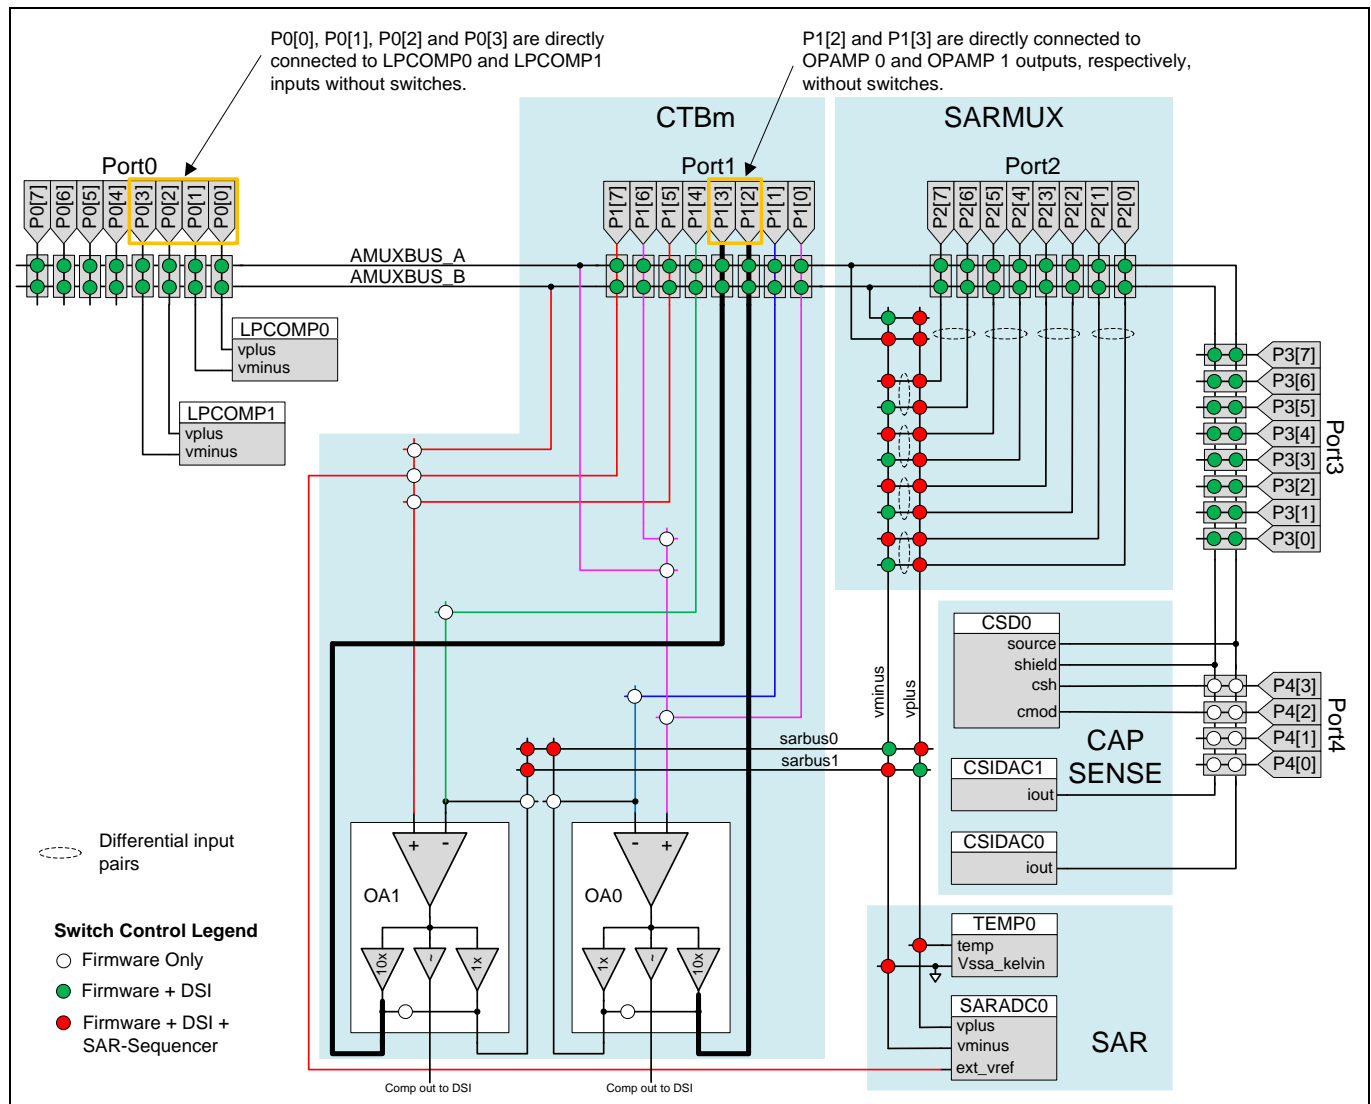
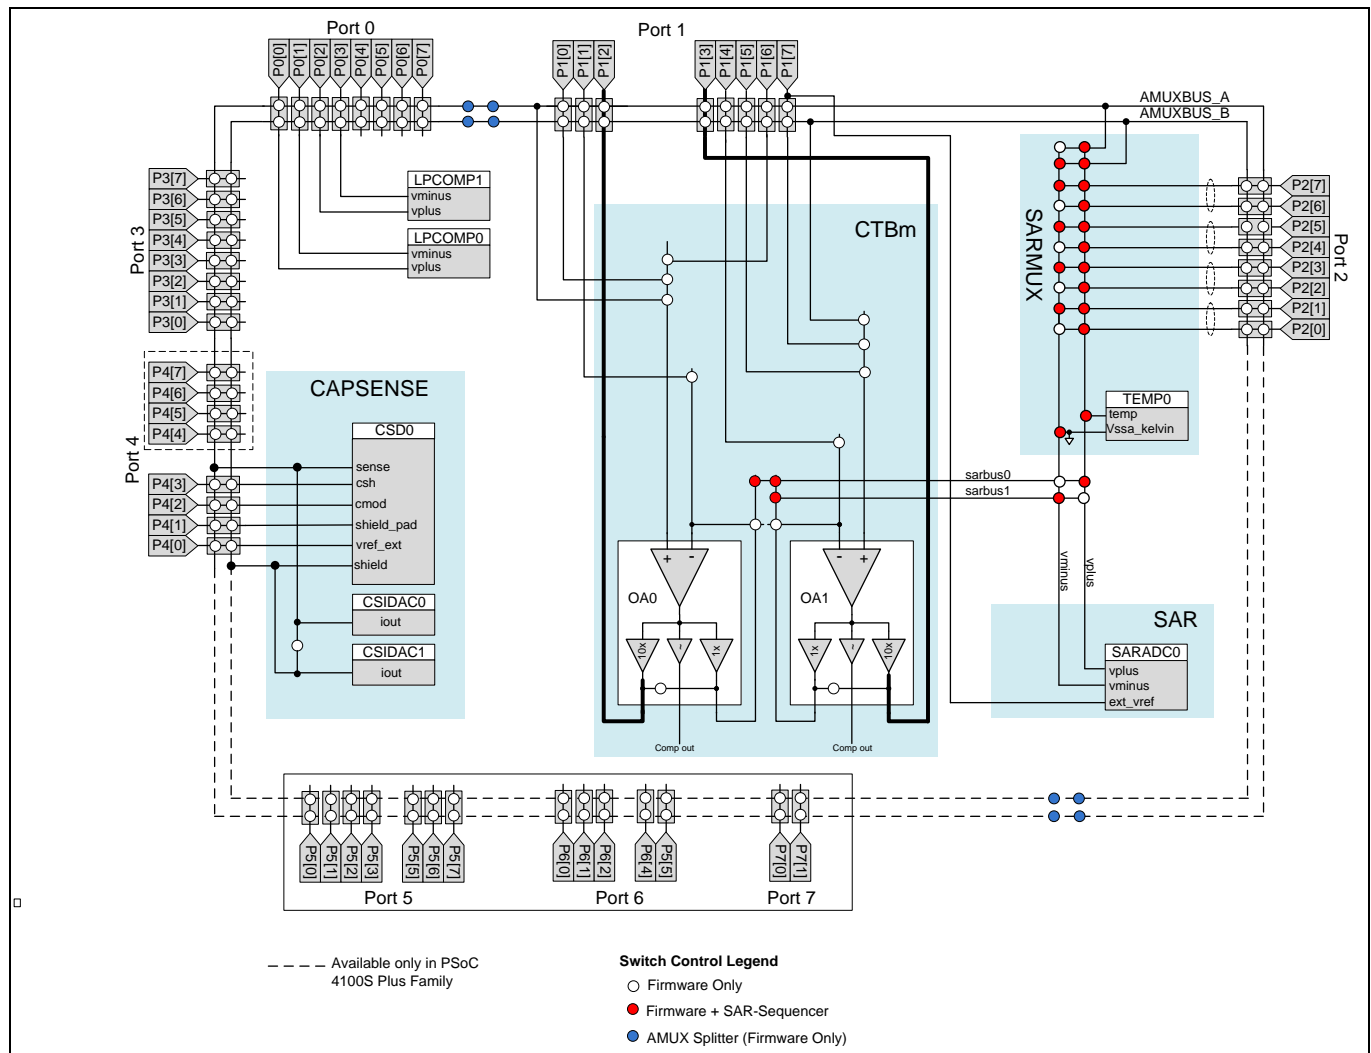
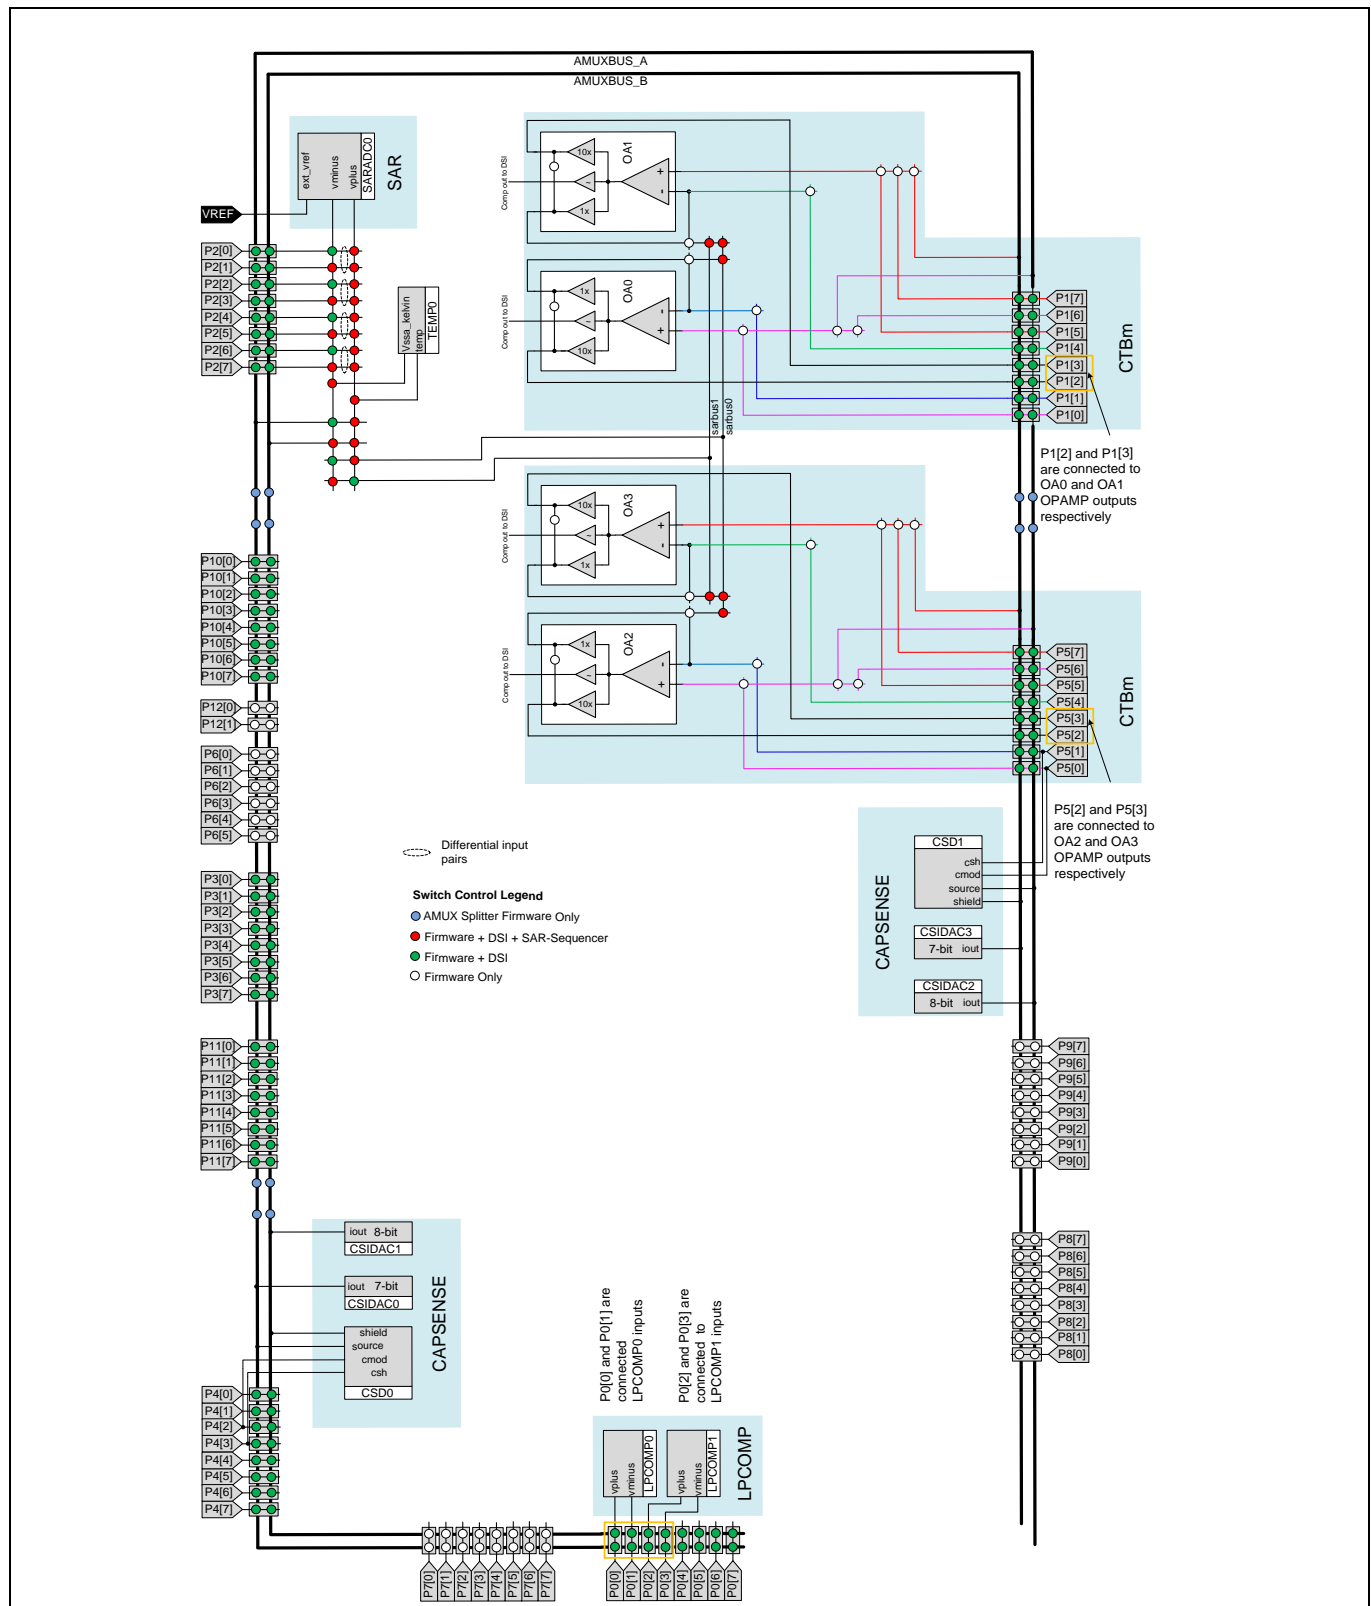

Figure 13 PSoC 4200/PSoC 4100 Analog Routing Diagram
Figure 14 PSoC 4100S/4100S Plus Analog Routing Diagram
Figure 17 PSoC 4200L Analog Routing Diagram
The following are the key highlights of analog routing in other PSoC 4 parts — see Figure 13 to Figure 17.
- There are dedicated pins for CapSense CMOD and the shield tank capacitor. See Figure 13 through Figure 17 to know about the pins.
- AMUXBUS_A and AMUXBUS_B can be split using switches (marked in blue) as shown in Figure 14 through Figure 17. This is useful if the AMUX buses are required for non-CapSense applications such as opamp/comparator input and output routing along with CapSense in the system.